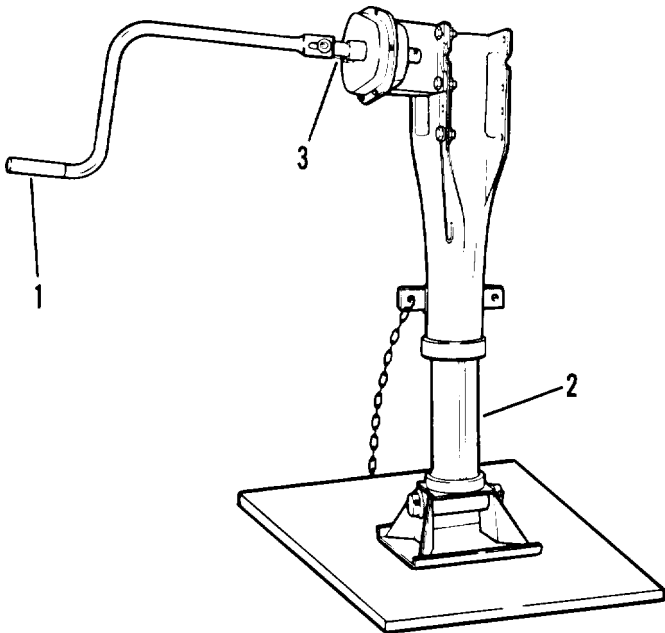

Figure 2-8. Landing leg handcrank
- b. Rotating handcrank (1, figure 2-8) clockwise lowers landing legs (2) for parking semitrailer.
- d. Pushing operating shaft (3) in engages low speed gear for ease and speed in raising or lowering legs between ground and full up position.
- e. Pulling operating shaft (3) out engages high speed gear for raising or lowering legs (2) when semitrailer is under load.